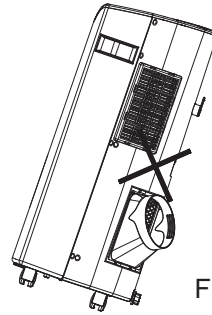

FIG. 1
- ALWAYS OPERATE THE UNIT IN AN UPRIGHT POSITION AND PLACE IT ON A FLAT, LEVEL SURFACE AT LEAST 14" (36 CM) FROM ANY OBJECTS OR COMBUSTIBLE SURFACES (FIG 1 & 4).